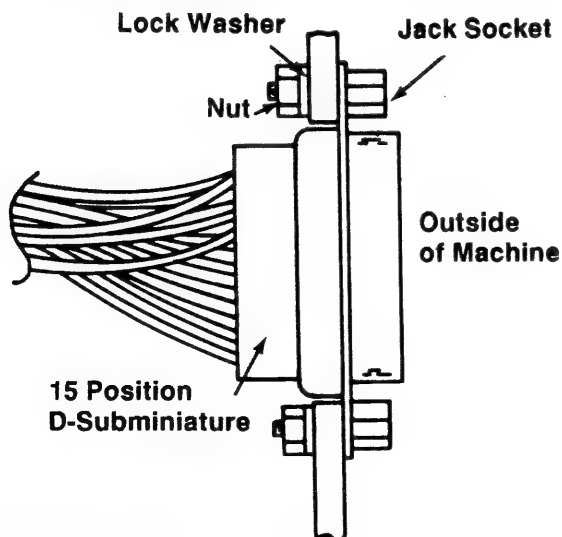

Figure 2-3.3B
- Install four PC Board Supports (Figure 2-3.3B).
- Install the Isolation Board (Figure 2-3.3B).
- Mate J102 to the connector on the left side of the board (Figure 2-3.3B).
- Mate J103 and J104 to the connectors on the right side of the board. (Figure 2-3.3B)
1. Remove the Lower Left Cover if necessary, remove J100 and J101 and replace the M3 x 6 Taptite Screws with the 4-40 Jacksocket Assemblies (Item 16). See Figure 2-3.3B. You may want to retap the hole before installing the Jacksockets.